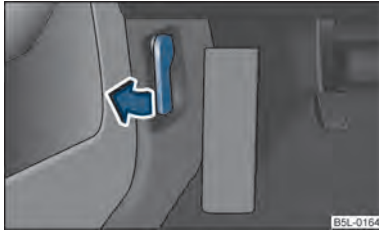

Fig. 151 Bonnet release lever
- Pull the unlocking lever below the dash panel on the left-hand side ⇒ fig. 151.
- Unlock the bonnet ⇒ fig. 151.